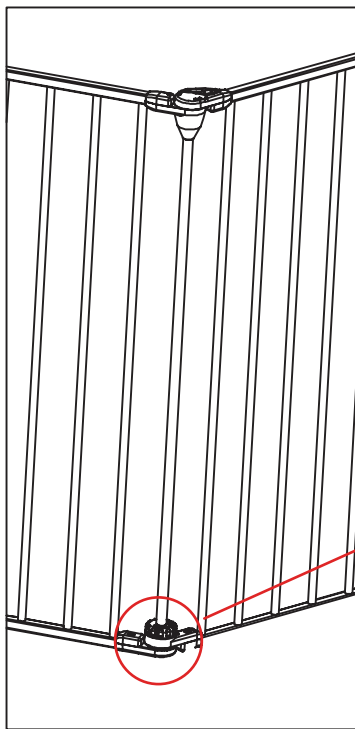

Figure 4
- Turn the base knob anti-clockwise to the unlocked position, as per **Figure 4**.